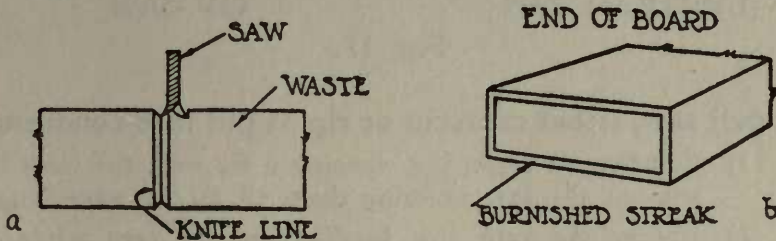

Fig. 16.
You should always try to saw to the center of the knife or gage line. (See (a) Fig. 16.) If you do the work accurately, you can see the burnished streak left by the knife or gage line after the sawing is complete. (See (b) Fig 16.)
- (1) *Jointing the teeth*, i. e. running a file over the teeth lengthwise of the saw to bring them all to the same length.
- (2) *Setting the teeth*, i. e. bending just the very points of the teeth alternately to the right and to the left. This is done to prevent the saw binding in the kerf. A saw requires more set to work well in soft, wet wood than in hard, dry wood. Why?
- (3) *Filing the teeth to correct shape.*
**Important:** Wherever accurate sawing is required all lines should be run with the knife or marking gage. Either tool, when sharp, opens somewhat the fiber of the wood, forming a V-shaped groove with burnished sides. After sawing, these burnished surfaces should show. (See (b) Fig. 16.)